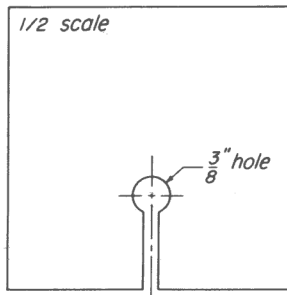

Fig. 19-7
Step 1. Obtain a piece of thin white cardboard about 3 x 3 inches (a 3 x 5 index card is very good) and cut it out as shown in Fig. 19-7. If you do not have a compass handy to make the 3/8-inch circle, use a flat washer from one of the chassis connectors that you received in Kit 10. Use the inside hole of the washer to trace out an approximate 3/8-inch hole.